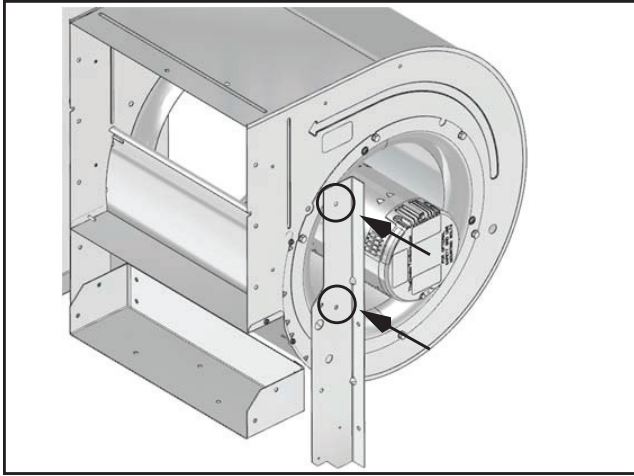

Fig. 39 - Reinstalling Bracket
13. Reinstall remaining bracket using (2) screws. See Fig. 39.